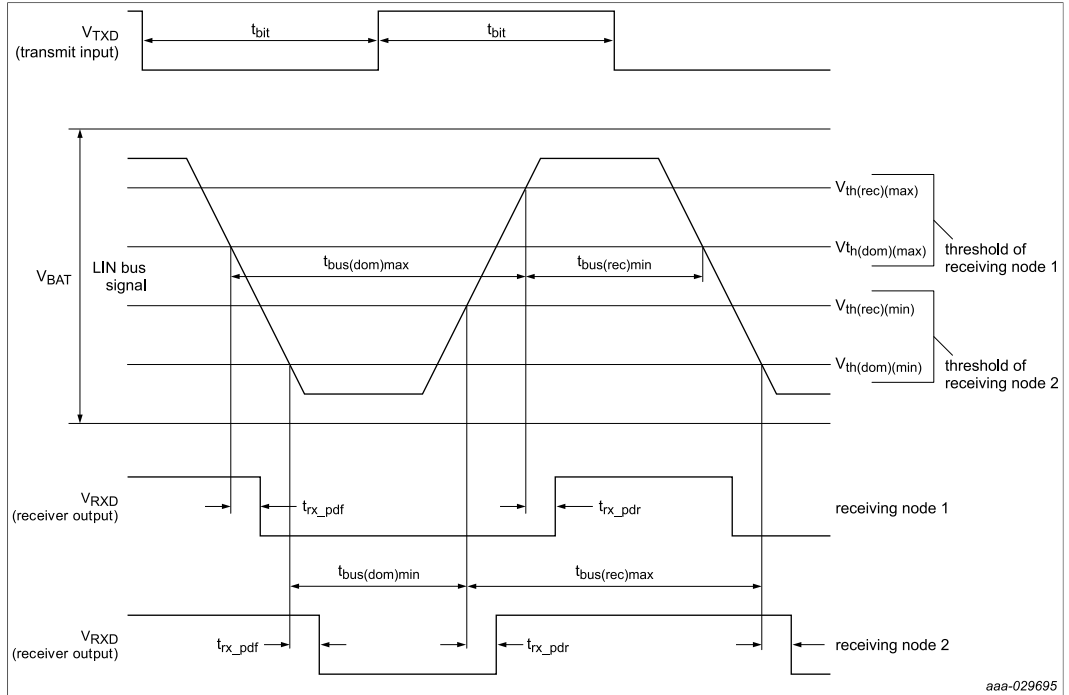

Figure 11. Timing diagram of LIN duty cycle
- [4] See timing diagram in Figure 11